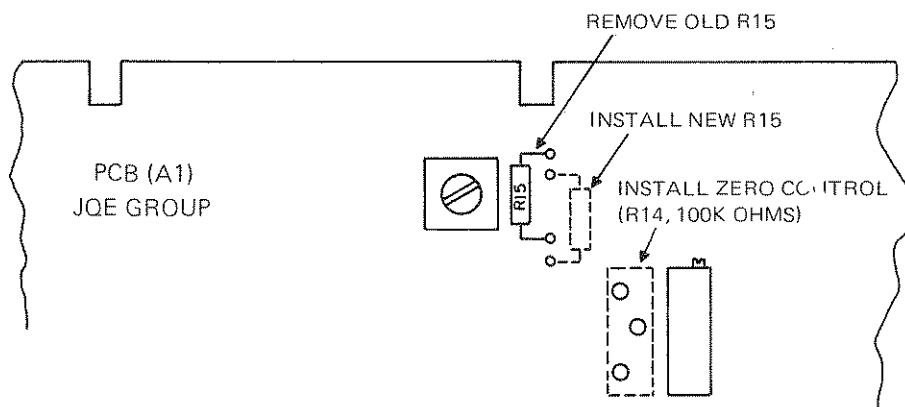

FIG. 5-2 INSTALLATION OF ZERO CONTROL
- Remove the PCB Assembly from the chassis as described in paragraph 5-3. Locate the pre-designated space for the additional components on FIG. 5-2.